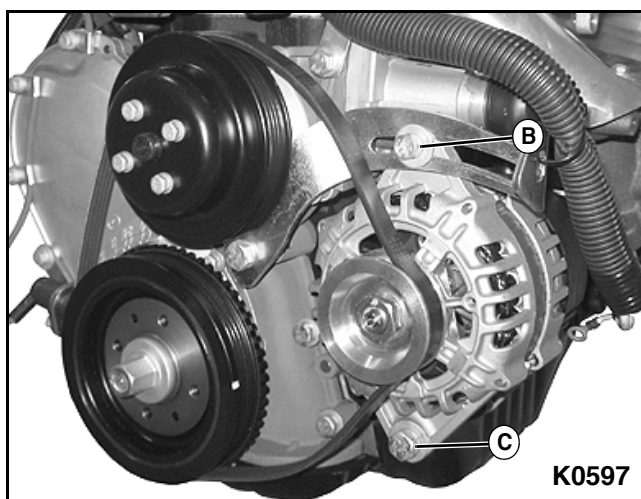

Figure 3-21
4. Support alternator and remove upper (B) and lower (C) alternator mounting bolts. Remove alternator from alternator mounting brackets. **See Figure 3-21.**